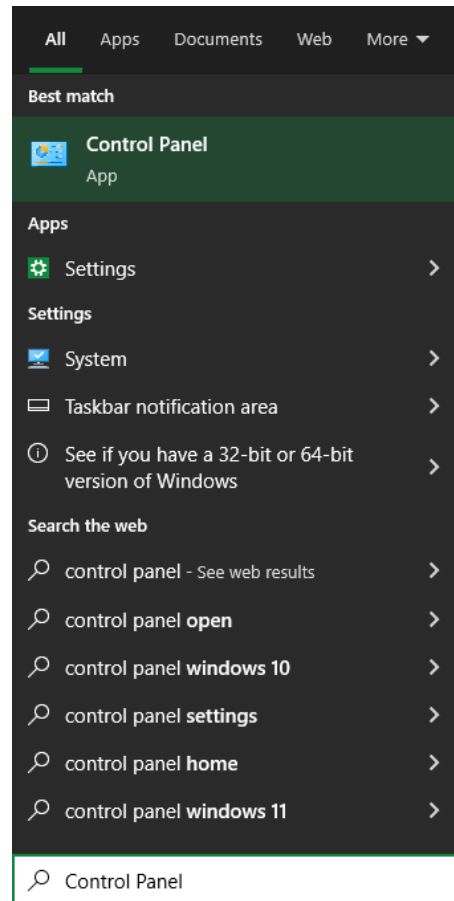

Figure 2.3a - Start Menu
Step 1: Open the control panel by clicking on the start menu and then clicking on Control Panel (Figure 2.3a).